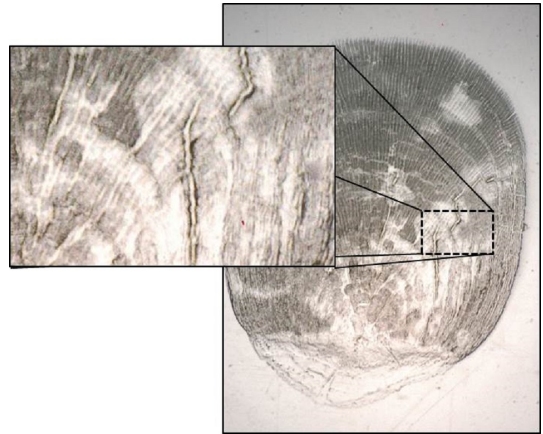

Figure 11: Summer flounder scale impression damaged from too much heat and/or pressure during pressing.
3. The scale is deteriorated by excessive heat and/or pressure(Figure 11);